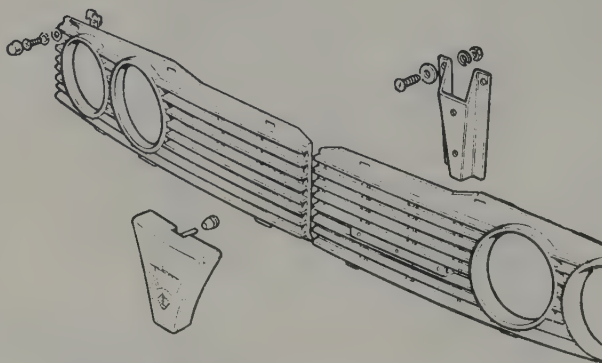

Fig. 1.34. Grille and badge attachment (early models)
- 5 Release the Rover badge from the centre of the grille by tapping the knurled studs from behind. (Fig. 1.34).